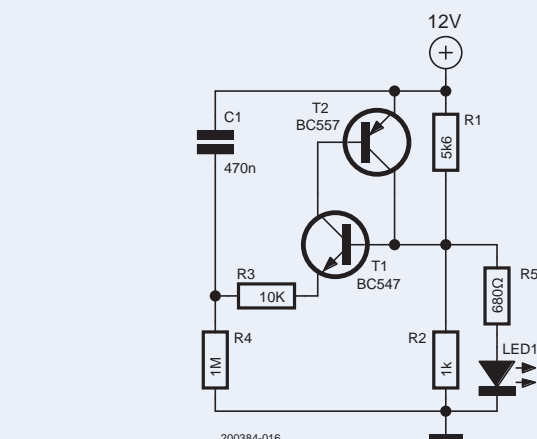
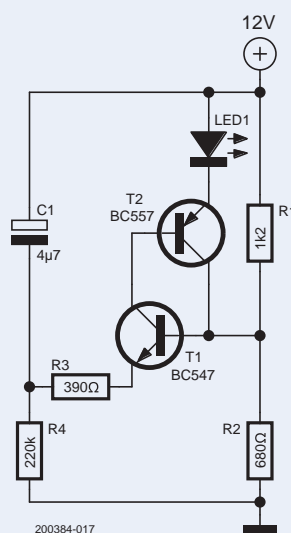

Figure 10: 'Upside-down' 1-Hz LED flasher.
Figure 11: This 'optimized' LED flasher uses a larger capacitor but saves a resistor.
**Figure 10** shows an 'upside-down' circuit to flash an LED at a rate of around 1 Hz. R3 determines the pulse width and therefore the duration of the flash. With the given values, the pulse width is about 11 ms.
Similar to Figure 10, but with the LED connected in a different place, current limiting resistor R5 becomes superfluous and can be removed (**Figure 11**). Its role has been taken over by R2 which is in series with the LED when the PUT is conducting.